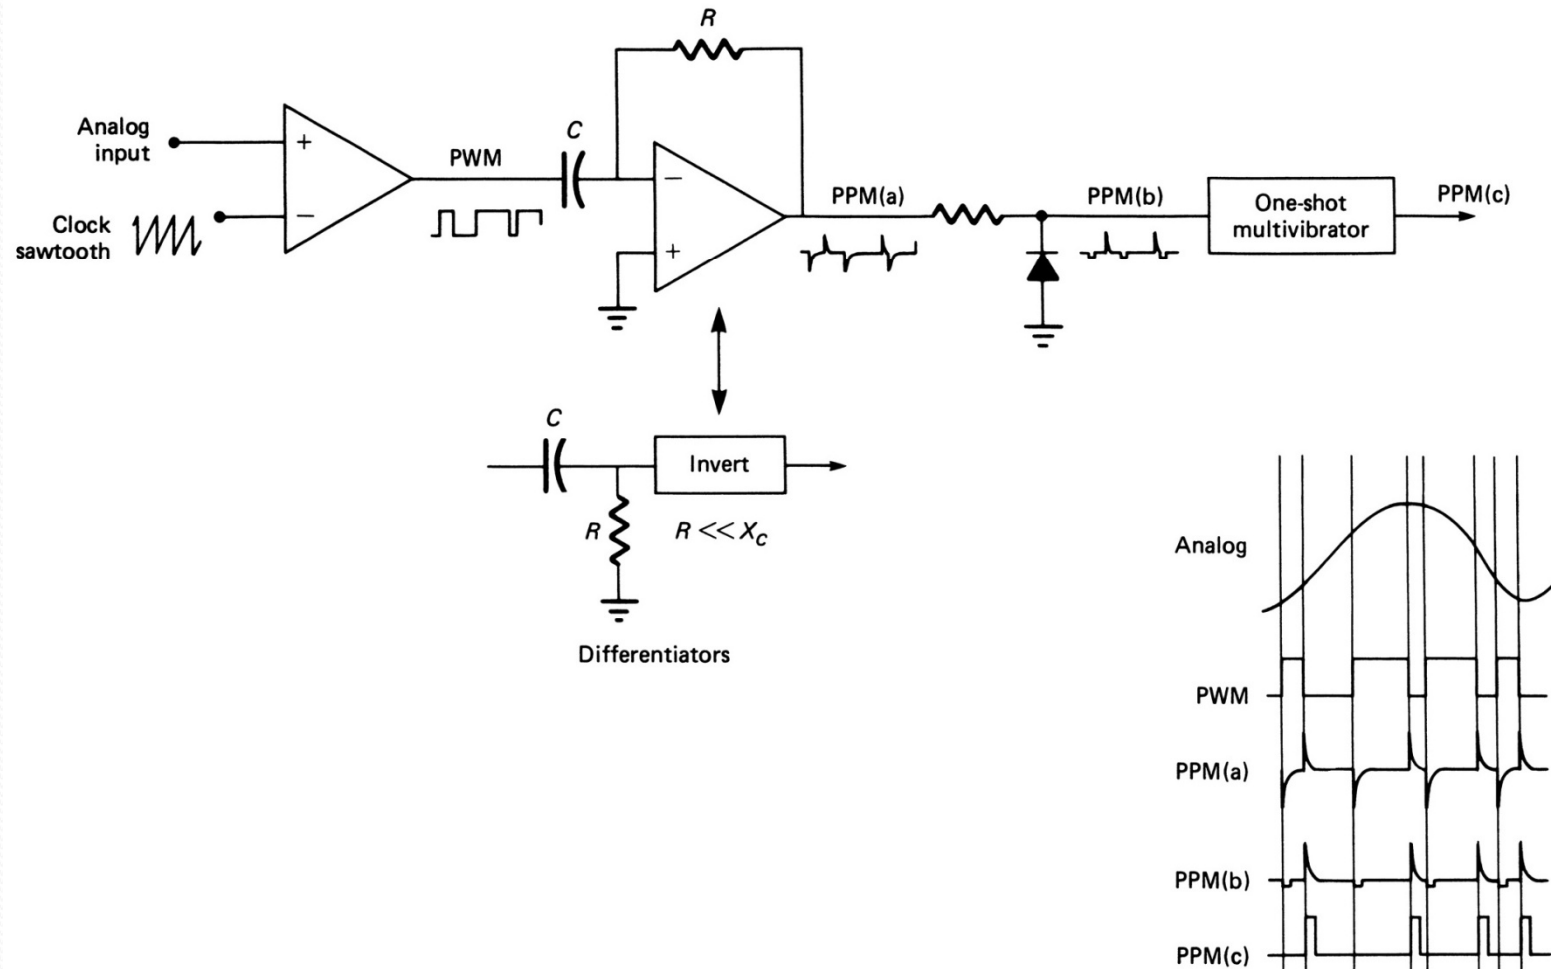

Figure 11-13. Pulse position modulator.
- Since the width of each pulse in the PWM signal shown in Figure 11-13 is directly proportional to the amplitude of the modulating voltage.
- The signal can be differentiated as shown in Figure 11-13 (to PPM in part a), then the positive pulses are used to start a ramp, and the negative clock pulses stop and reset the ramp.